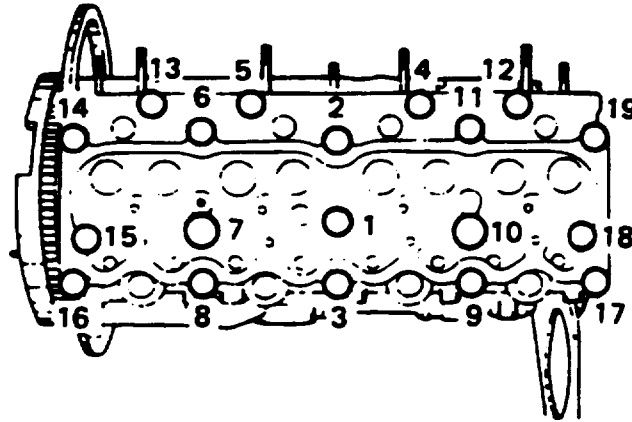

FIGURE 3-76. Cylinder Head Bolt Tightening Sequence
- b. Carefully place cylinder head (3) on engine block aligning engine block dowels with cylinder head dowel holes.
- c. Lubricate nineteen bolts (2) with engine lubricating oil (MIL-L-2104) and install them hand tight.
- d. Tighten bolts (2) in two steps following sequence shown in FIGURE 3-76.
- (1) Step 1 - New bolts - 47.0 ft-lbs